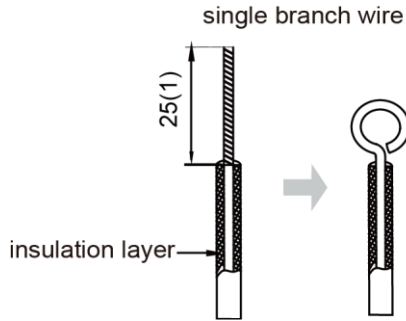

Fig 5.1.1
(1) The connection of wire (as shown in fig 5.1.1)